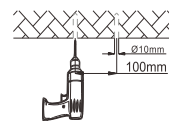

Figure 3
1. Use a chalk or sharp tool to mark signs on the top of the ceiling or wall, then drill holes on the signs by electric drill. (Figure 3)